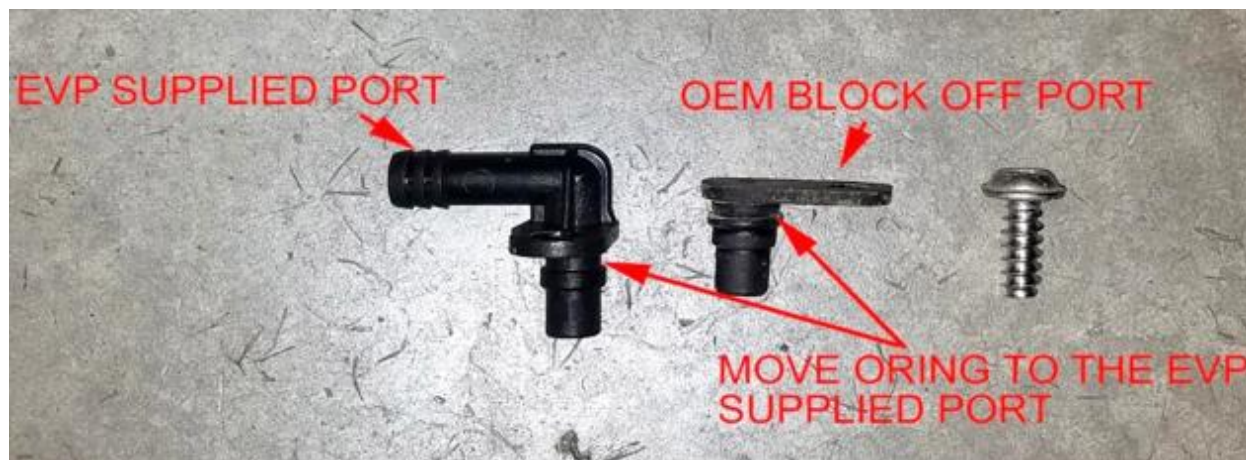

Fig 10
Step 11: Install the Blow Off Valve into the charge tube. Run the vacuum line from the BOV to the plenum. Install the supplied plenum barb, reuse the OEM torx screw. (Fig 10)